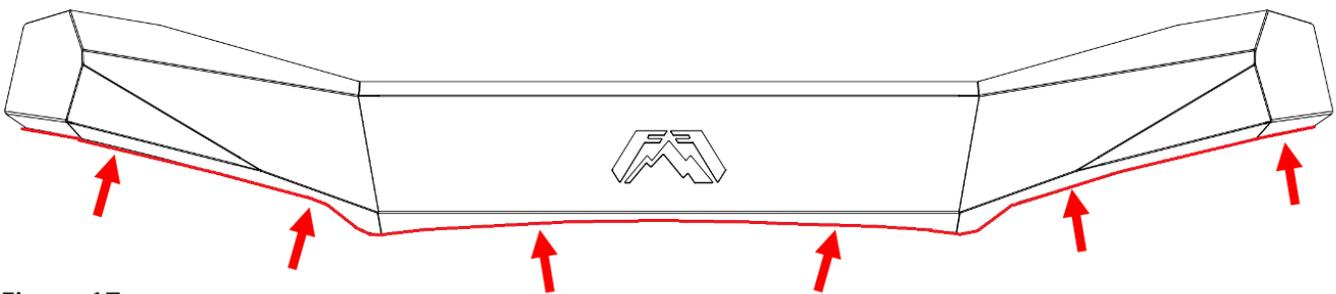

Figure 17.
17. Place the provided edge trim along the edge of the cowl cover as shown below. Figure 17.